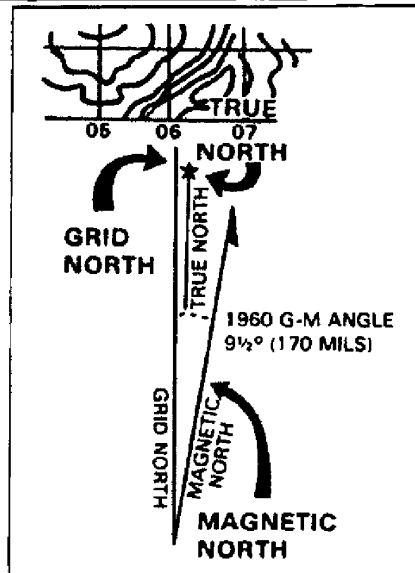

Figure C-30. Declination diagram
1. The north-south lines on your map give grid north. The needle of your compass points to magnetic north. Grid north and magnetic north are usually different by a few degrees. Neither one points straight to the North Pole (called true north), but you do not need to know true north to keep from getting lost in a combat area. The difference in degrees for every map is shown on the bottom of mapsheet (figure C-30).